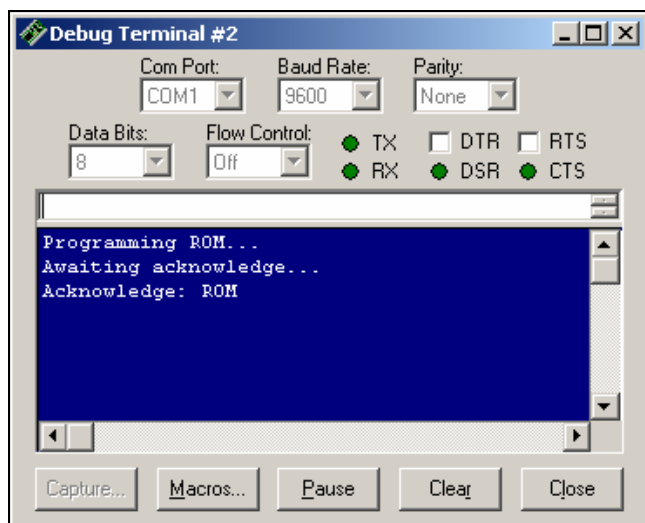

Figure 2 – Programming a FlexiPanel BASIC Stamp Edition module
3. When the program runs, the BASIC Stamp writes the user interface specification into the module. After a few seconds, the BASIC Stamp Editor will confirm the process is complete writing *Acknowledge: ROM* to the Debug Terminal (Figure 2). If the message does not appear, programming failed. (Try removing and reapplying the power.)